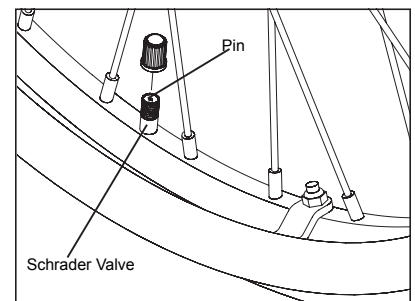
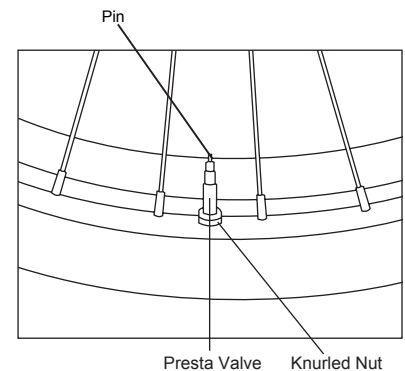

Figure 120
Figure 121
2. Remove all air from the inner tube. If you have a Schrader valve (see Figure 120), remove valve stem cap and release all of the air from the tube, by pressing down on the pin in the center of the valve stem. If you have a Presta valve (see Figure 121), remove the valve stem cap, unscrew, counter clockwise, the knurled nut on the valve stem and release all of the air from the tube by pressing down on the pin in the center of the valve stem.